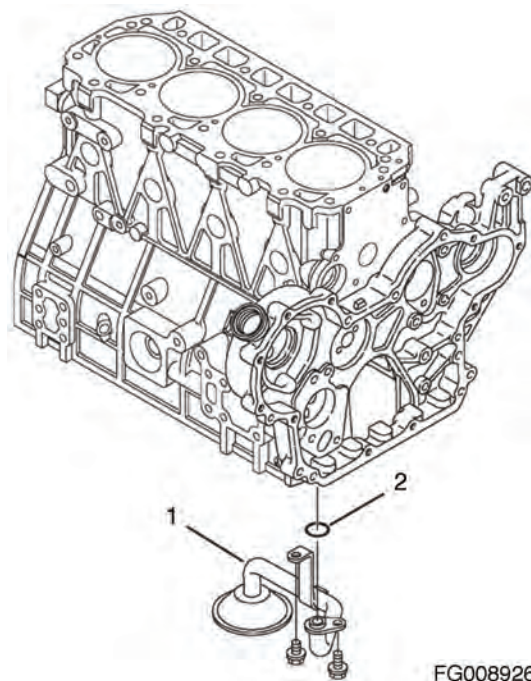

Figure 172
3. Remove the oil pickup tube (1, Figure 172) and O-ring (2, Figure 172).